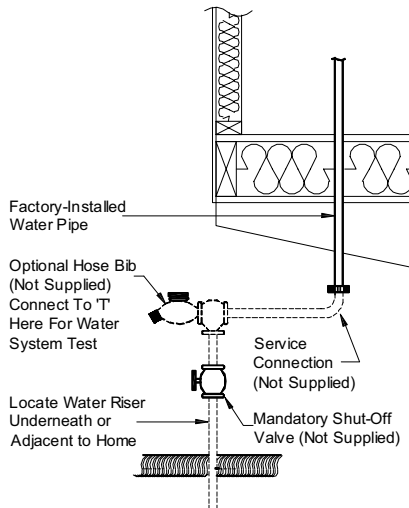

Figure 84. Water system connection
To connect the home's water system to the water source, identify the water inlet located under the home (usually below the water heater compartment or utility room) and follow the procedure described below (refer to **Figure 84**):
3. **Pressurize system.** Connect a hydrostatic pump, valve, and gauge to the location shown in **Figure 84**. Pressurize the system with water at 100 psi, and then isolate it from the pressure source. Bleed all air from the highest and farthest points in the system.